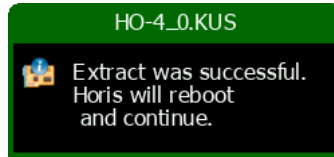

Figure 20: Message shown after the extract has been completed.
6. Once the extraction was complete, Horis displays a message as shown in Figure 20 and reboots. During the boot, screens starts flashing indicating that Horis binary is being copied. At the end, an information window is shown indicating success of the first part.